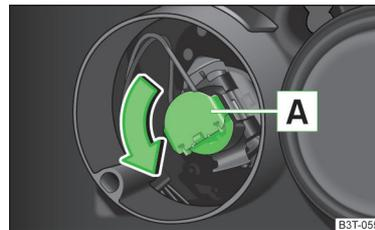

Fig. 203 Halogen headlight: Changing the bulb for the low beam
- › Turn the plug with the bulb **A** » Fig. 203 as far as the stop in the direction of the arrow.